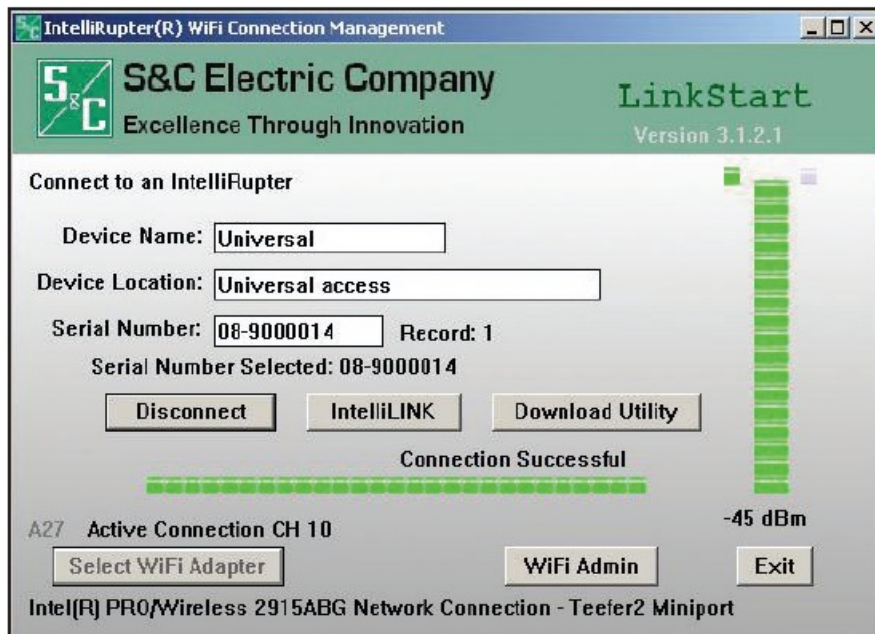

Figure 4. Screen showing a successful Wi-Fi connection.
- The secure connection device driver will begin transmitting an encrypted, invisibly addressed “wake-up” message to the communication module. Progress is noted on the horizontal indicator bars. In addition, the status indicator on the protection and control module pulsates, dim to bright, while the Wi-Fi connection is being established. After the IntelliRupter fault interrupter recognizes the wake-up message and its source, it will proceed with authentication. Encrypted messages are exchanged that require correct decryption keys in both the personal computer and the protection and control module. When the link is successfully established, the Active status indicator becomes green. Signal strength is continuously shown on the vertical indicator bars. See Figure 4.